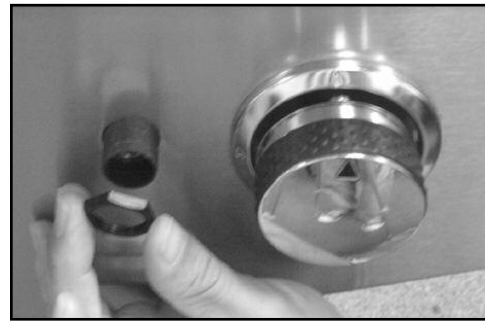

Fig. 13
2. Slide the threaded part of the igniter through the mounting bracket and then through the igniter hole in the front of the side burner shelf, then install the locknut. (See Fig. 13)